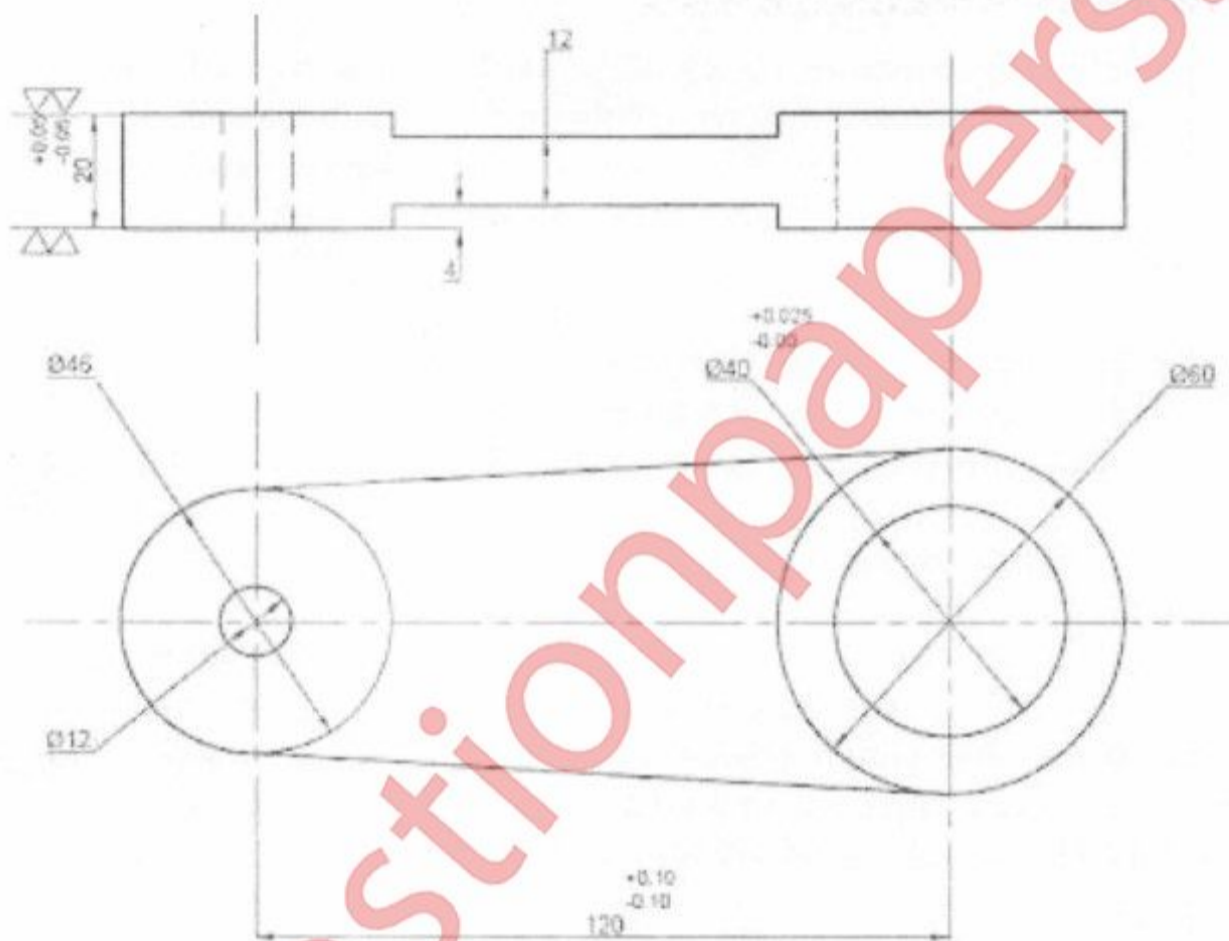

Fig. 1
- a) Write down sequence or operations for the component shown in Fig. 1 5